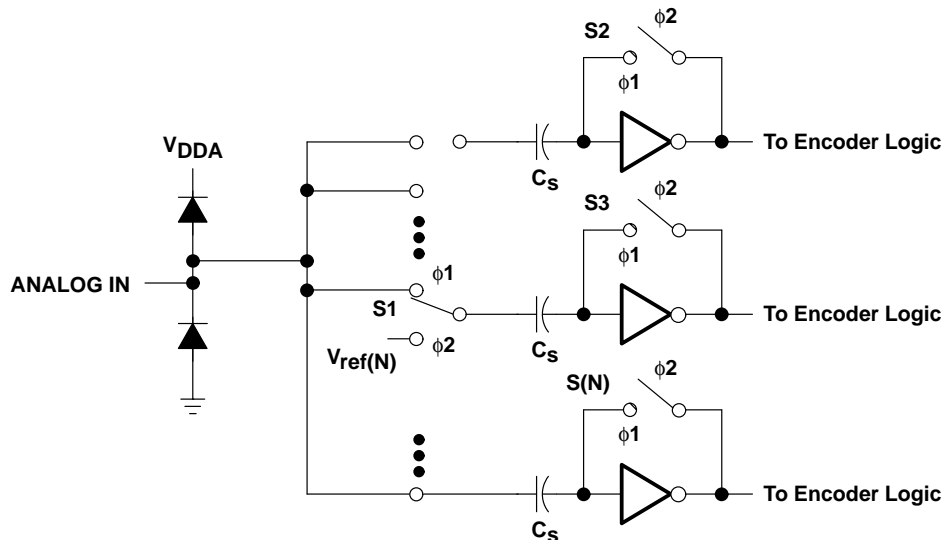

Figure 13. External Connections for Using the Internal Reference Resistor Divider
Figure 13 depicts the analog input for the TLC5540. The switches shown are controlled by two internal clocks, $\Phi 1$ and $\Phi 2$. These are nonoverlapping clocks that are generated from the CLK input. During the sampling period, $\Phi 1$, S1 is closed and the input signal is applied to one side of the sampling capacitor, C_S . Also during the sampling period, S2 through S(N) are closed. This sets the comparator input to approximately 2.5 V. The delta voltage is developed across C_S . During the comparison phase, $\Phi 2$, S1 is switched to the appropriate reference voltage for the bit value N. S2 is opened and $V_{ref(N)} - VC_S$ toggles the comparator output to the appropriate digital 1 or 0. The small resistance values for the switch, S1, and small value of the sampling capacitor combine to produce the wide analog input bandwidth of the TLC5540. The source impedance driving the analog input of the TLC5540 should be less than 100 Ω across the range of input frequency spectrum.